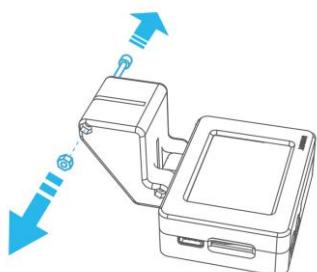

Figure 3.6 Loose the screws
Step 1 Loose the screws of the AI camera using 1.5mm socket head wrench, as shown in Figure 3.6.